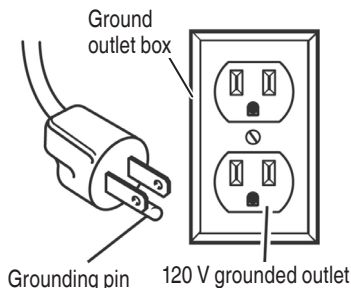

Fig. 1
5. This product is for use on a nominal 120-V circuit and has a grounding plug similar to the plug illustrated in Fig. 1. Only connect the product to an outlet having the same con-figuration as the plug. Do not use an adapter with this product.